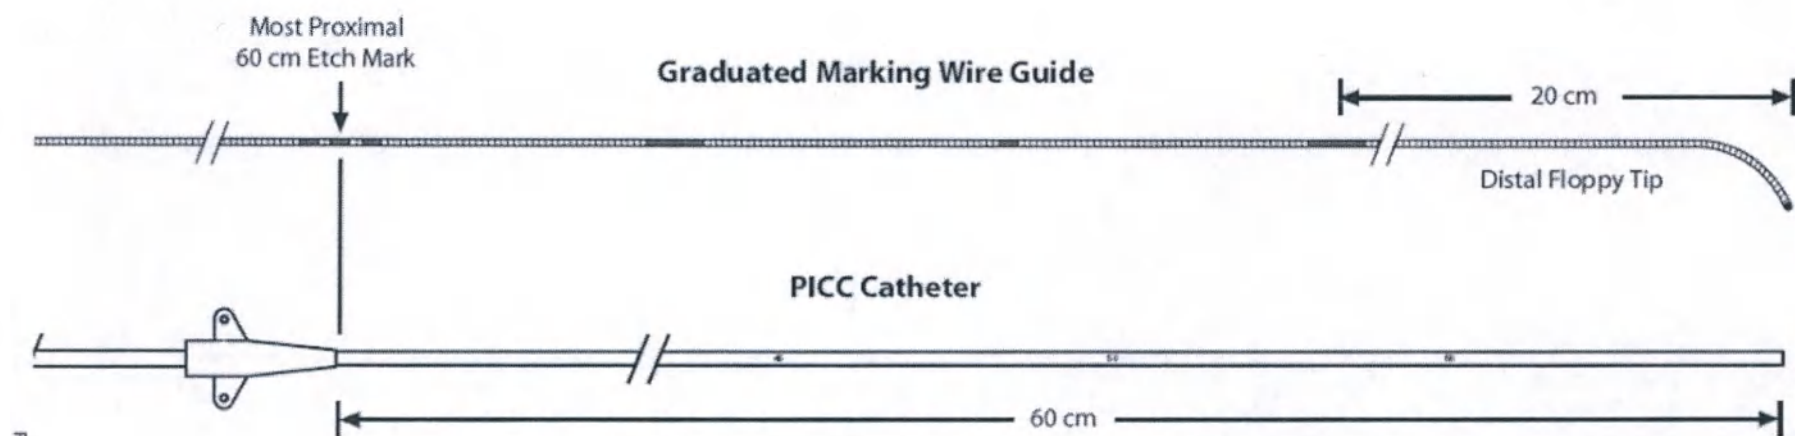

Fig. 5
5. Using fluoroscopic control, determine the correct catheter length by advancing the wire guide to the desired catheter tip location. Once the wire guide tip is in proper position, and using the proximal portion of the wire that is external to the patient, measure the distance on the wire guide from the triple etch marks to the puncture site. (The distal 60 cm of the wire guide is marked in 5 cm increments, with the triple etch marks positioned proximally at 60 cm.) (Fig. 5) Trim the Turbo-Flo catheter to the appropriate (60 cm minus X cm) length. A Turbo-Flo catheter's original length is 60 cm.